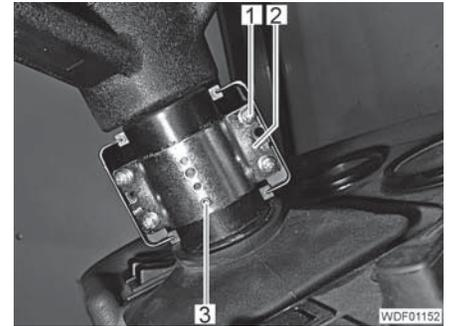

Fig. 438 Steering column switch attachment
- Unscrew the 4 screws (Fig. 438,1).
- Remove the clamp (Fig. 438,2).
- Position the clamp (Fig. 438,2) in such a way that the rivet (Fig. 438,3) catches in the hole on the steering column.
- Screw in 4 screws (Fig. 438,1) with washers and tighten.